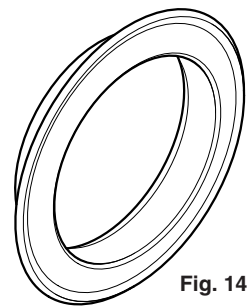

Fig. 14
3. Locate the trim over the flue terminal and push it back to the wall to compress the seal (Fig. 14).